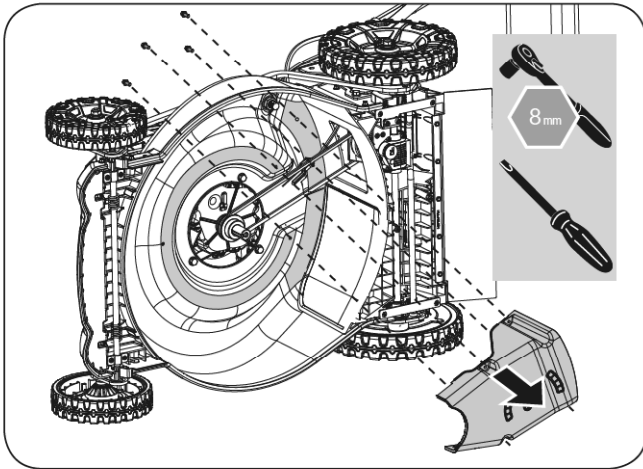

Figure 44
2. Remove the belt cover. (See **Figure 44**)